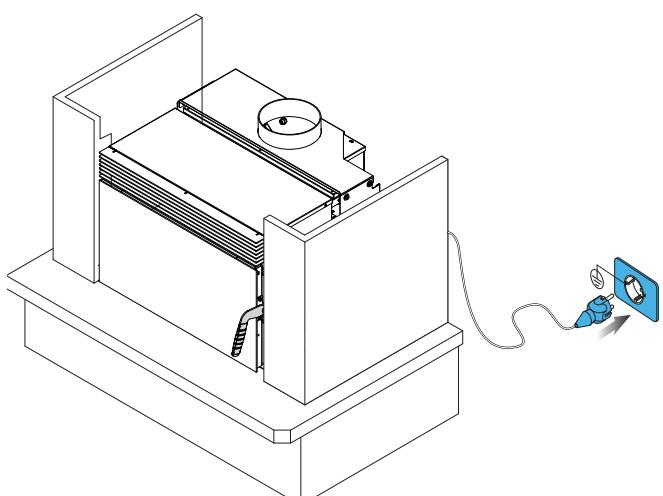

fig. 6.1.15
- 15) Plan the connection to the electrical grid to the rear of the insert and connect the power cable (fig. 6.1.15).